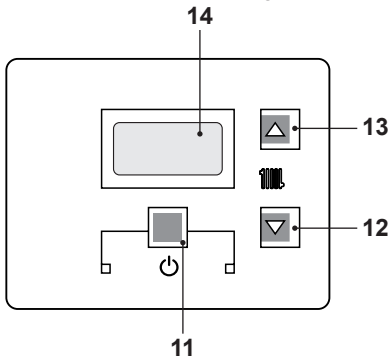
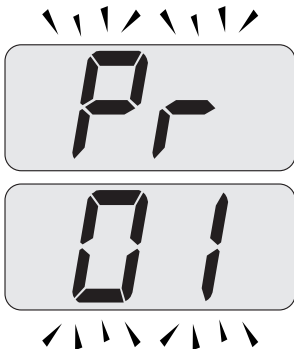
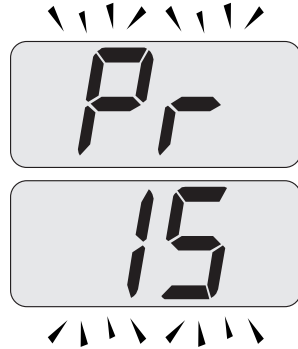

Fig. 7.17
Fig. 7.18
Fig. 7.19
- Enter in "programming mode" by pressing keys 11 - 12 - 13 (Fig. 7.17) for 10 seconds at the same time until the letters **Pr** that alternate with code 01 are displayed on the LCD display, indicating that "parameter 01, has been activated (Fig. 7.18).
with code **15** are displayed on the LCD display, indicating that "parameter 15" (Fig. 7.19) has been activated.
- Press keys 11 and 13 (Fig. 7.17) at the same time until the value of parameter 15 (Fig. 7.20) is displayed on the LCD display.
- By pressing key 11 (Fig. 7.17) confirmation of the inserted value is obtained.
- Press keys 11 and 12 (Fig. 7.17) at the same time to exit without changing the value (return to the parameters list Fig. 7.19).
- Press keys 11 - 12 - 13 (Fig. 7.17) at the same time for 10 seconds to exit the "programming mode".
However, if the ambient temperature is not comfortable, the flow temperature of the heating plant can be increased or reduced by $\pm 15^{\circ}\text{C}$ by acting on keys 12 (reduce) and 13 (increase) (Fig. 7.17).